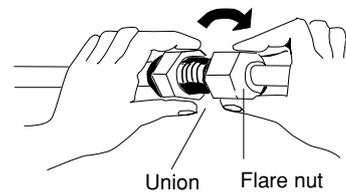

Fig. 6-5
- (3) For proper connection, align the union tube and flare tube straight with each other, then screw in the flare nut lightly at first to obtain a smooth match. (Fig. 6-5)